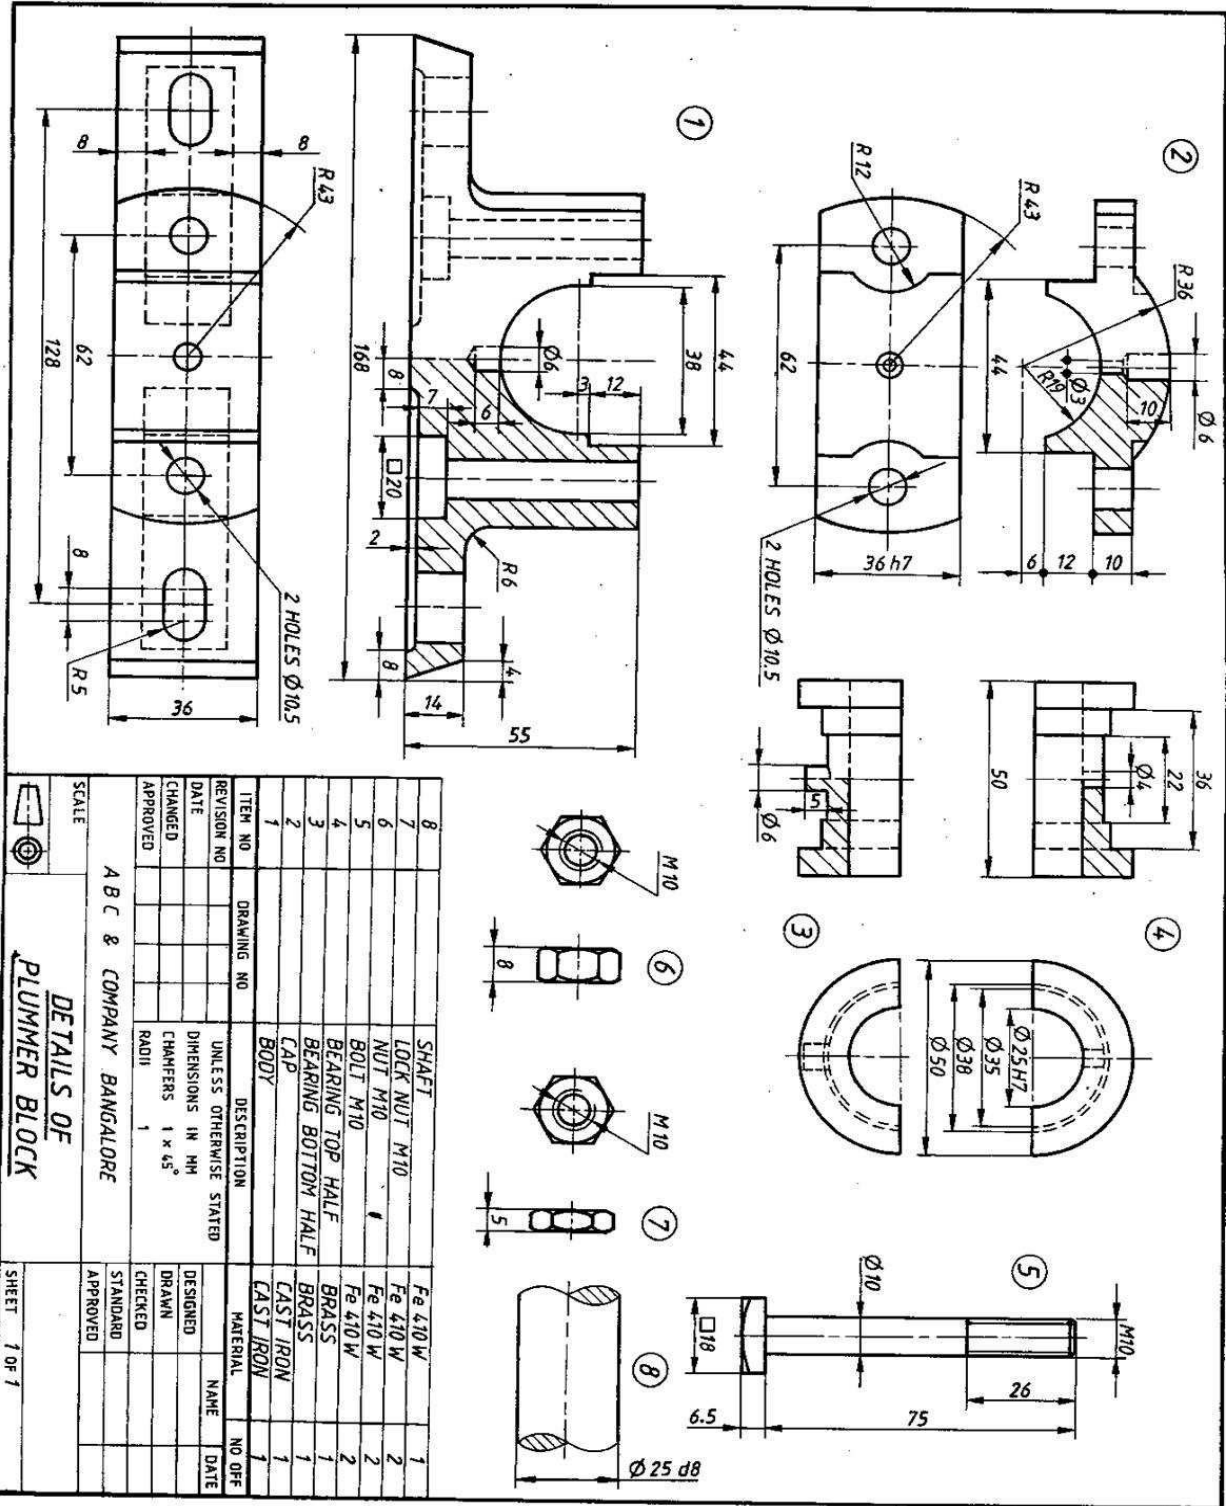

Figure 2 - Plummer Block
3. Figure 2 shows the details of a “**Plummer Block**”. Assemble the parts show the following views.
4. Figure 2 shows the details of a “**Connecting Rod**”. Assemble the parts show the following views.